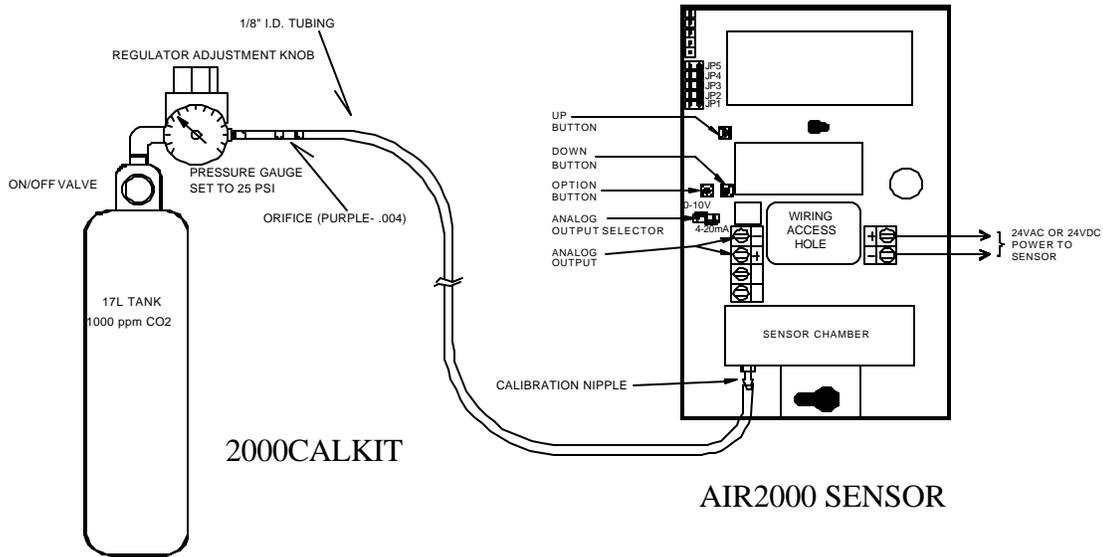

Fig. 1
(Refer to Fig. 1)
3. **Note whether the shorting block at jumper JP5 is covering both pins or only a single pin**, then borrow the shorting block and slide it over both pins of jumper JP2 (see figure 1).
5. With 1000ppm carbon dioxide as a calibration gas, the analog output should read 5V, (or 12mA if in mA position). If unit has a digital display, it should read 1000ppm  $\pm$  75ppm. If the reading differs by more than  $\pm$ 75ppm from the known concentration of calibration gas, use the 'UP' and 'DOWN' buttons (see figure 1) to adjust the reading.